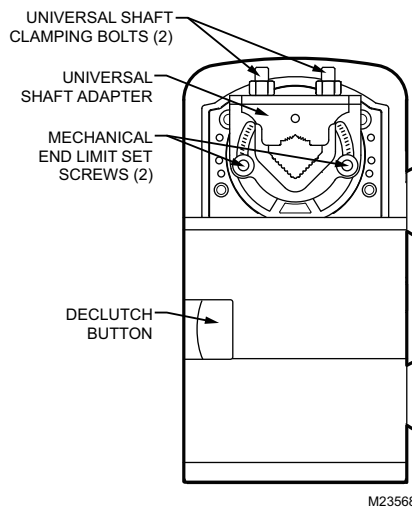

Fig. 1. Series 60 Floating Actuator.
The two mechanical end-limit set screws control the amount of rotation from 12° to 95°. These set screws must be securely fastened in place. To ensure tight closing of the damper, the shaft adapter has a total rotation stroke of 95° (see Fig. 1).
2. The declutch button, when pressed, allows you to rotate the universal shaft adapter (see Fig. 1).